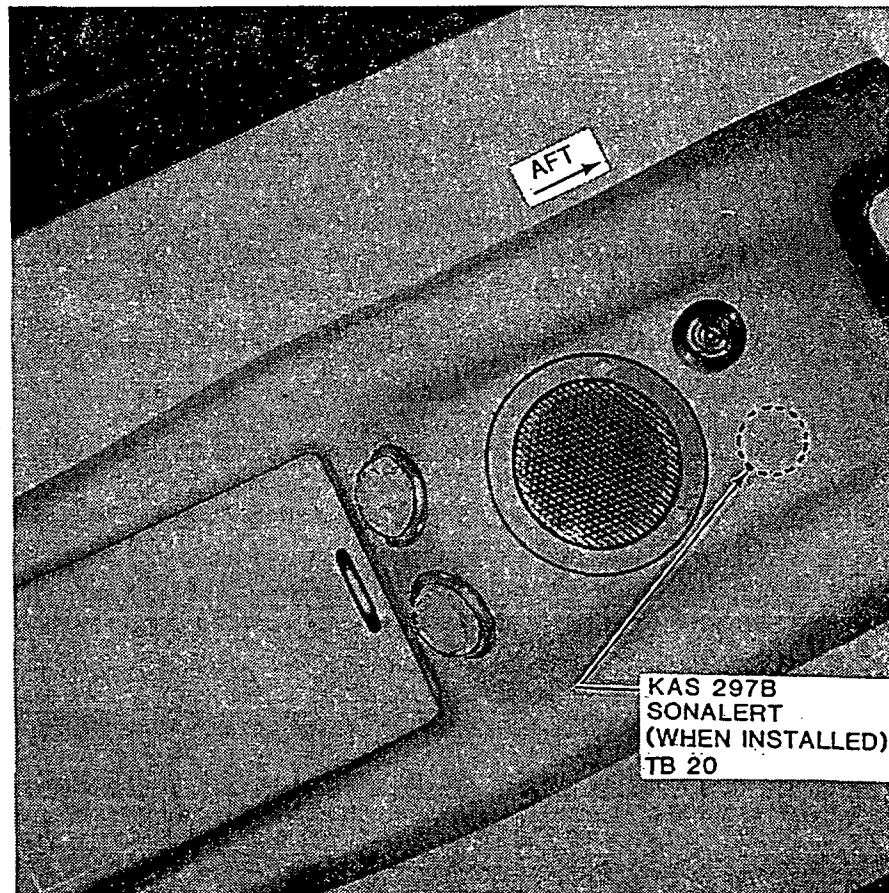

FIGURE 2-C ALT SELECT SONALERT INSTALLATION
- E. As shown in Figure 2-C, the sonalert (038-0008-01) (Item 25) can be installed in the copilot's side of the overhead console. Secure the sonalert using the sonalert attaching ring. When the audio alerting from the KAS 297B unit is connected to the airplane's audio amplifier system the KAS 297B Sonalert can be omitted. Connect the wiring per Section 10 of this manual.